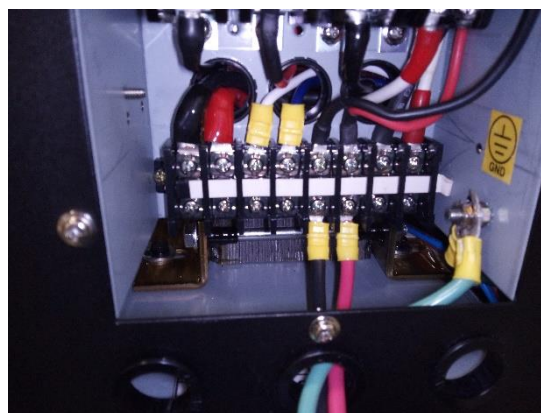

Figure 5—Terminal Block in back of Battery Cabinet with Positive and Negative cables connected
6. Connect the POSITIVE (+) and NEGATIVE (-) cables to their corresponding terminal on the bottom of the terminal block (**Figure 5**).